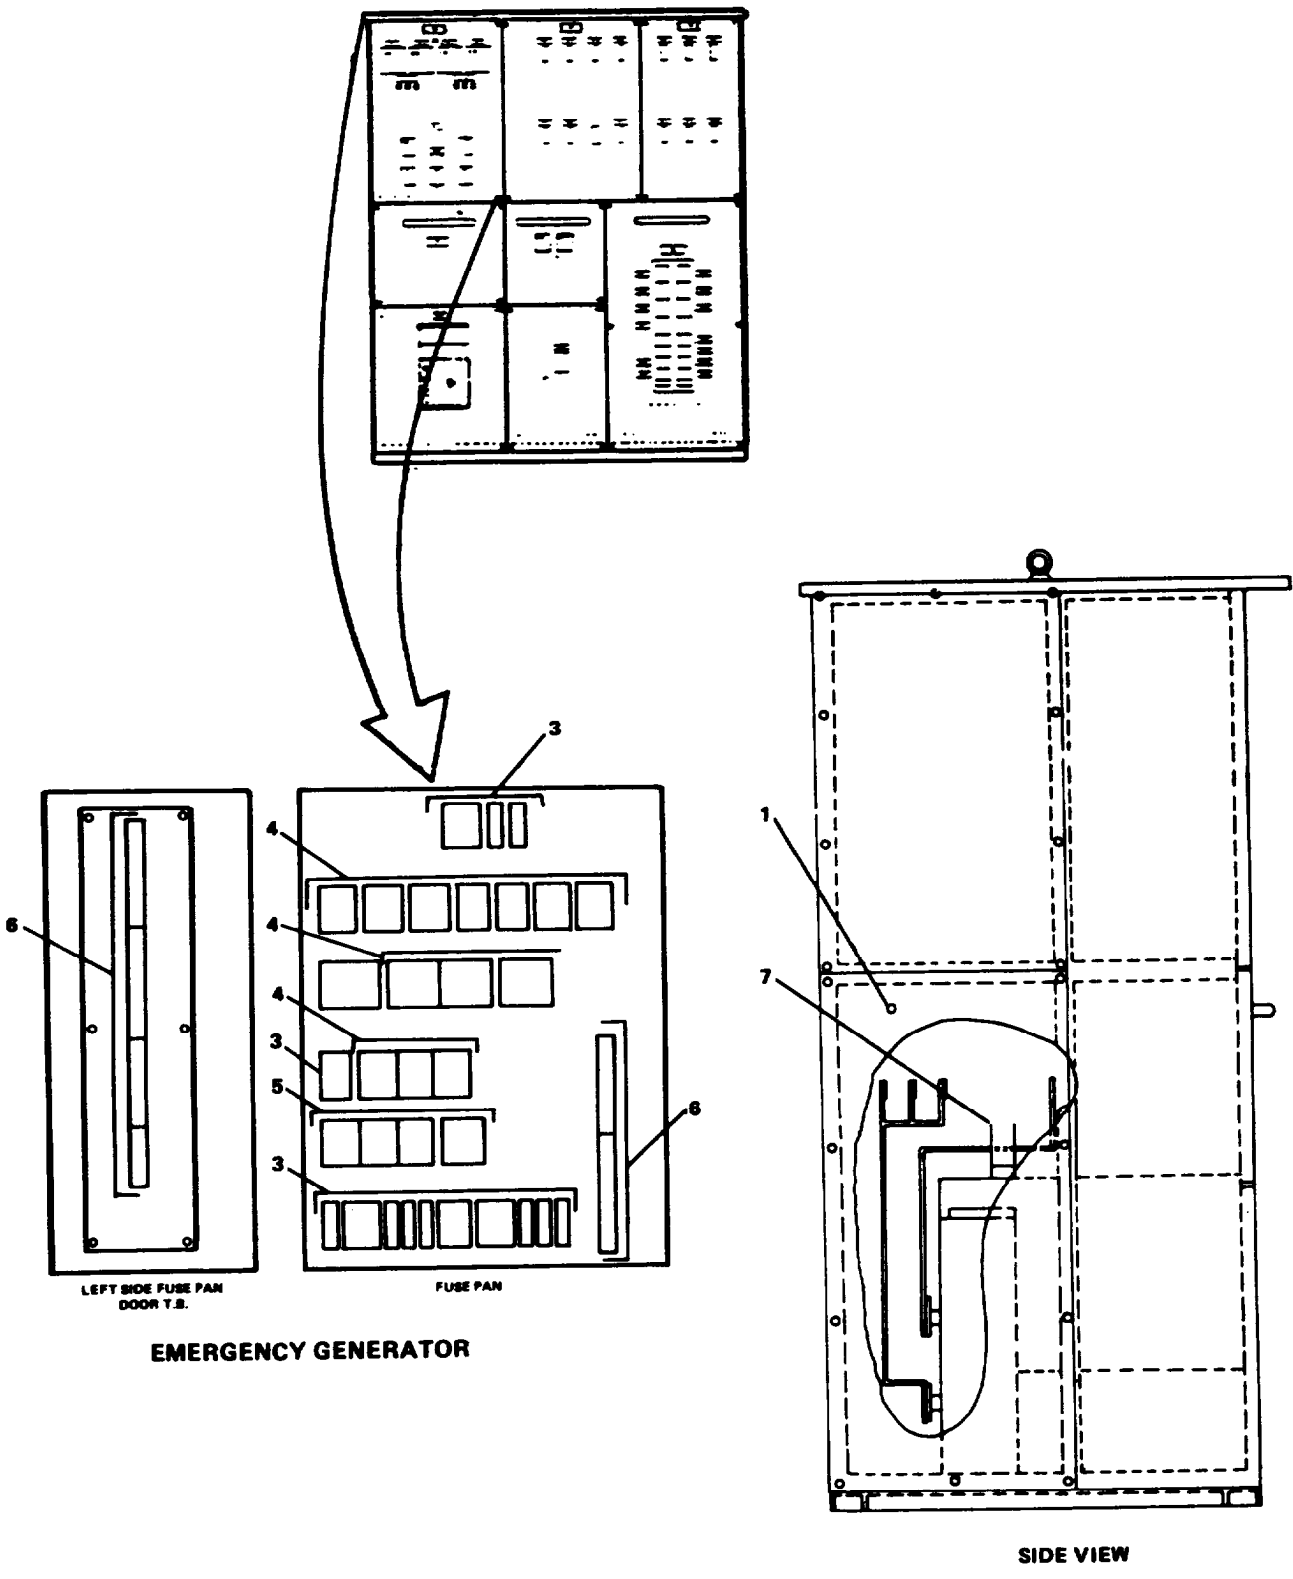

FIGURE 2-226. Emergency Generator Switchboard Fuse Panel.
**2-304. Repair Emergency Generator Switchboard Fuse Panel. (FIGURE 2-226)**